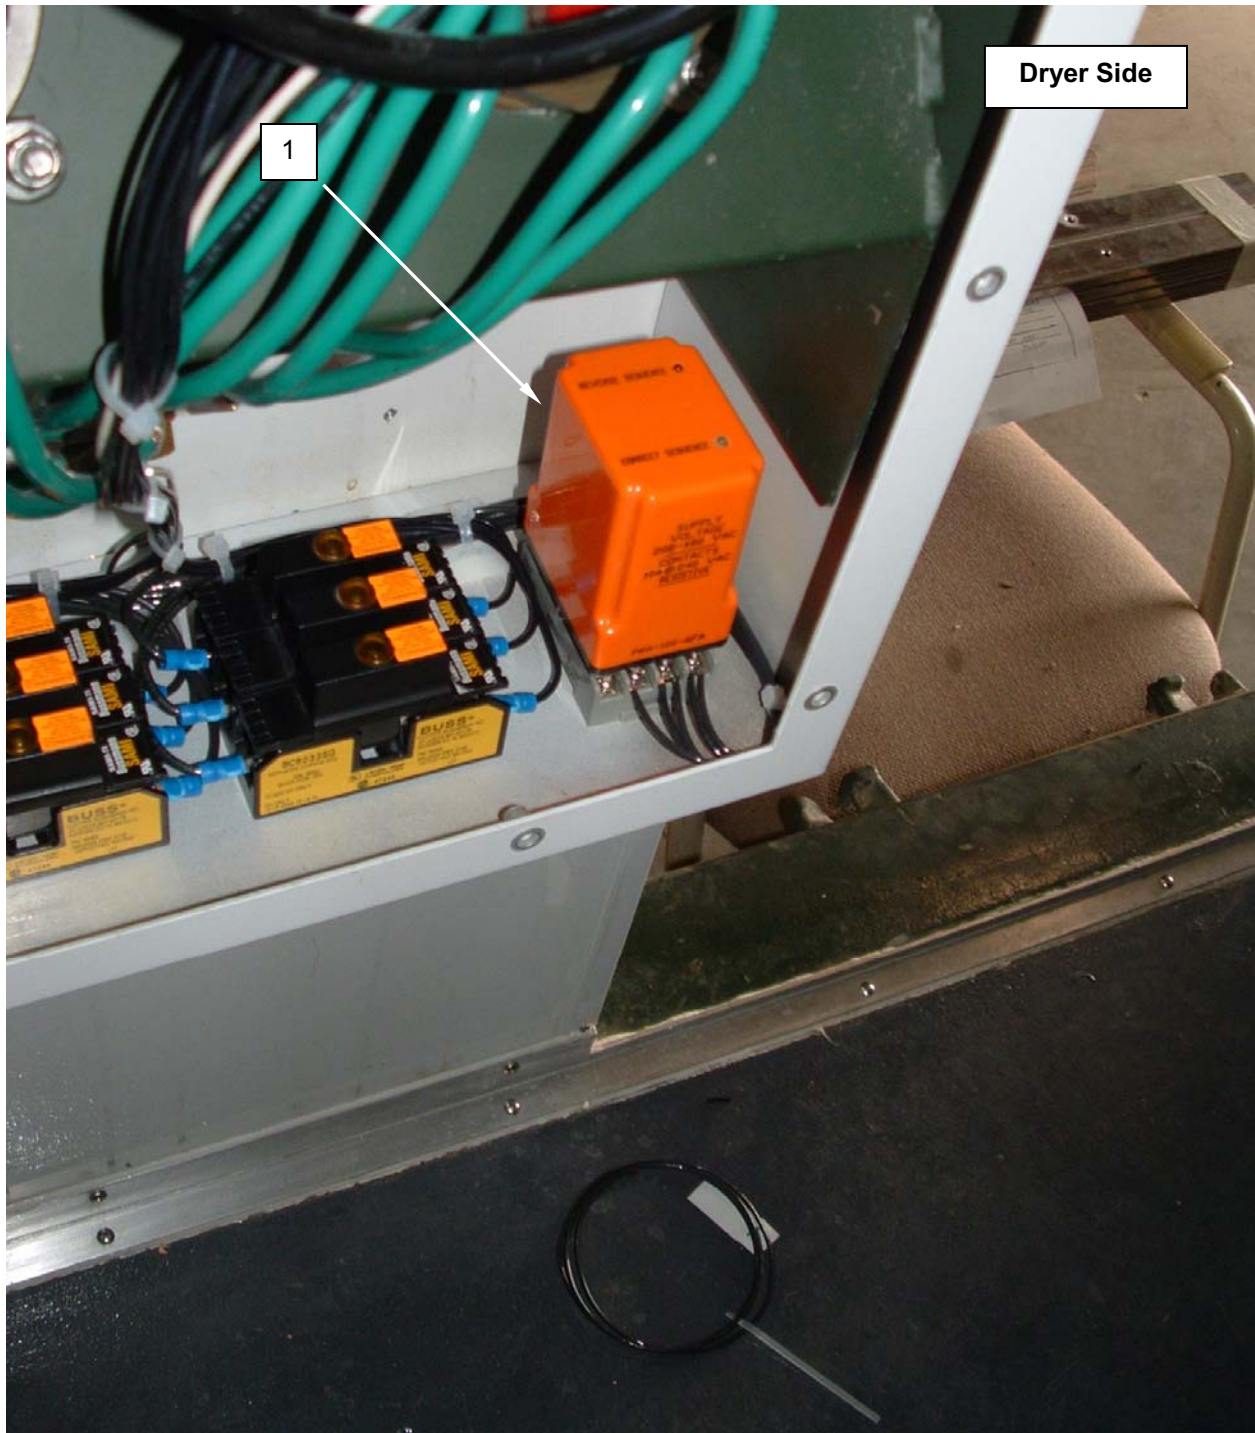

Figure 1. Inspect the Phase Monitor Relay.
3. Inspect the phase monitor relay(s) (**Figure 1, Item 1**) for visible damage.